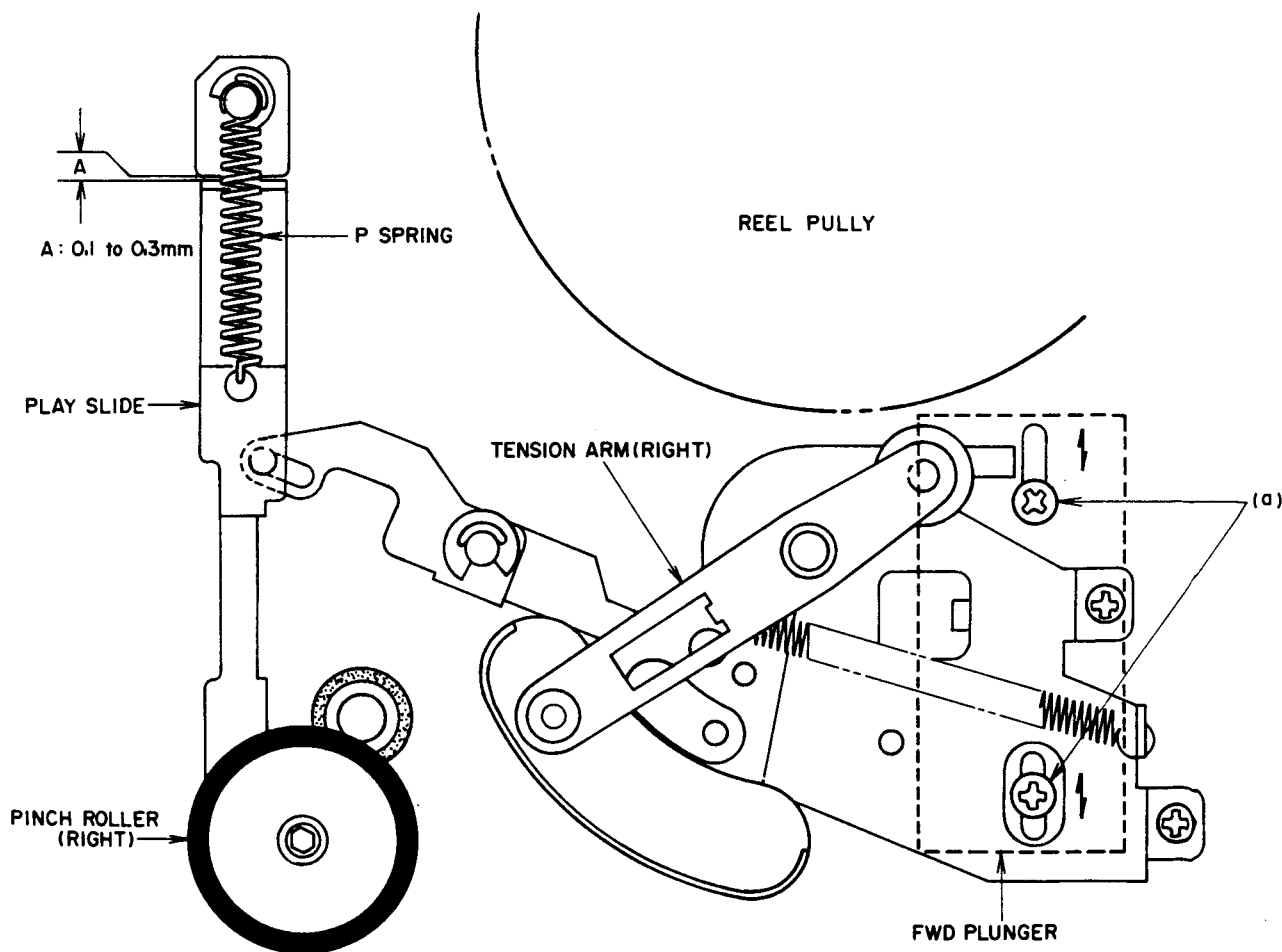

Fig. 33
2. PLAY PLUNGER POSITION ADJUSTMENT (Refer to Fig. 33)
If it reads otherwise, replace the P spring (See Fig. 33) Also make the same adjustment about the left pinch roller in REV mode.